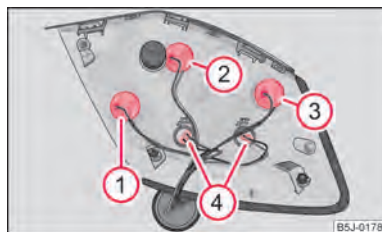

Fig. 166 Rear light unit: Fitting position of the bulbs
- To replace a light bulb, turn the bulb connector of the light bulb to the left (in the direction of the arrows on the housing) and take it out of the housing ⇒ fig. 166 right.
Fitting position of the light bulbs in the rear light unit ⇒ fig. 166